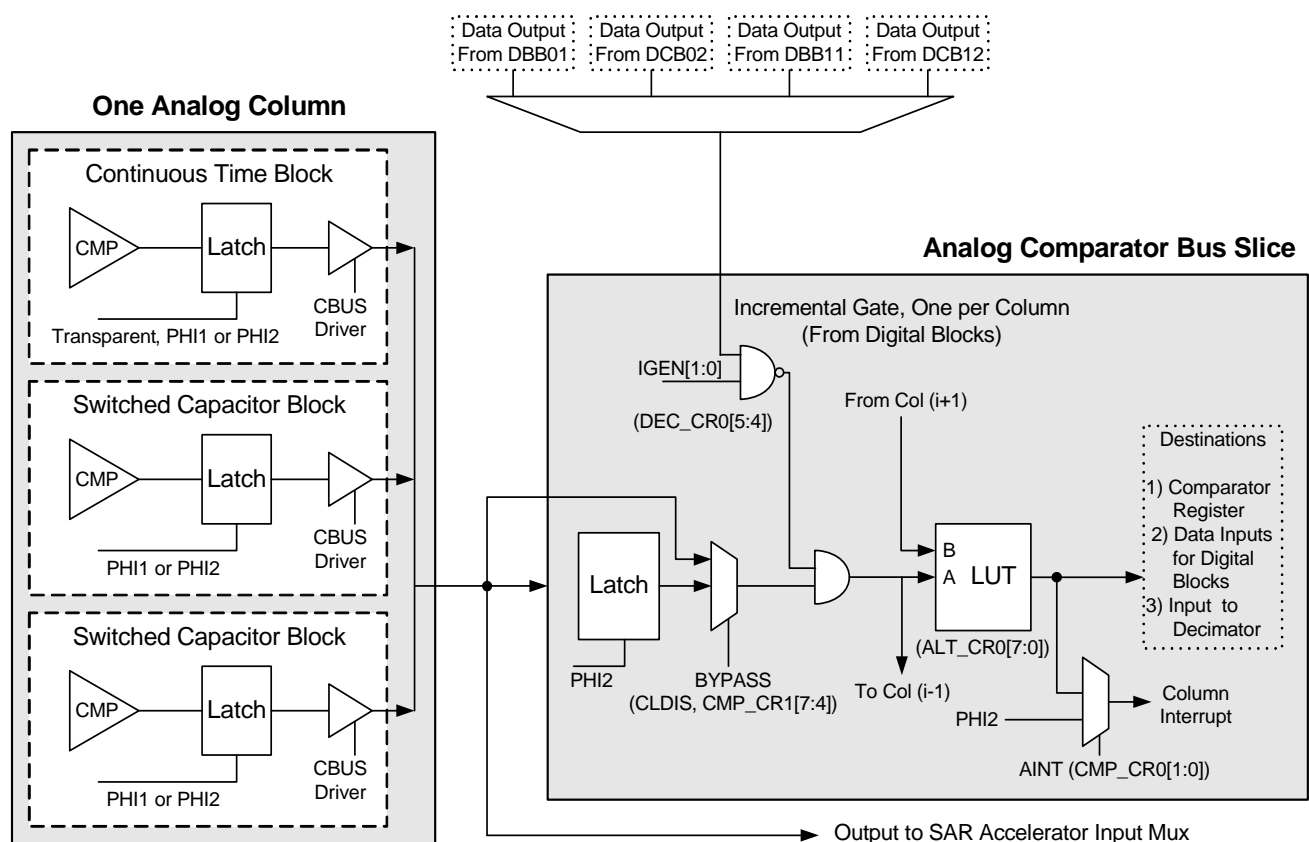

Figure 18-1. Analog Comparator Bus Slice
Figure 18-1 displays the top level diagram of the PSoC device's analog interface system.
Figure 18-1 illustrates one column of the comparator bus. In the Continuous Time (CT) analog blocks, the CPhase and CLatch bits of CT Block Control Register 2 determine whether the output signal on the comparator bus is latched inside the block, and if it is, which clock phase it is latched on. In the Switched Capacitor (SC) analog blocks, the output on the comparator bus is always latched. The ClockPhase bit in SC Block Control Register 0 determines the phase on which this data is latched and available.
As shown in Figure 18-1, the comparator bus output is gated by the primary output of a selected digital block. This feature is used to precisely control the integration period of an incremental ADC. Any digital block can be used to drive the gate signal. This selection may be made with the ICLKS bits in registers DEC\_CR0 and DEC\_CR1. This function may be enabled on a column-by-column basis, by setting the IGEN bits in the DEC\_CR0 register.